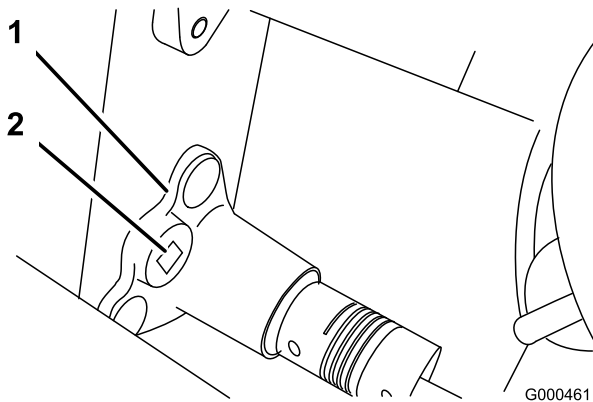

Figure 39
B. Using a 3/8 inch drive torque wrench, rotate the bearing housing with 35-40 in.-lb. of torque to set belt tension (Figure 39).